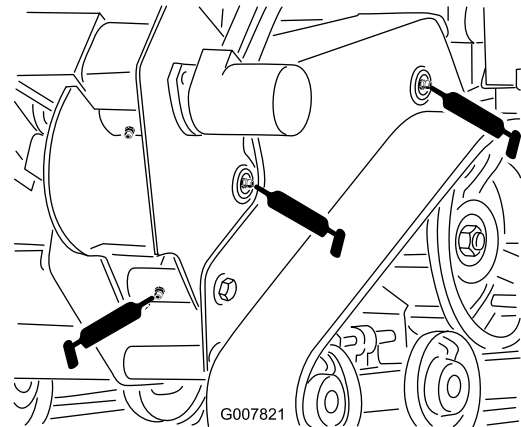
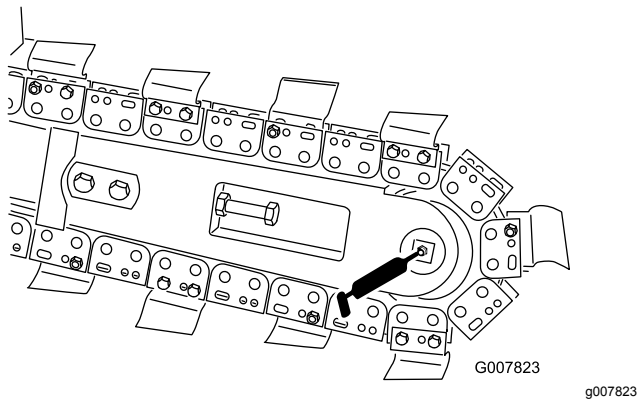

Figure 20
Figure 22
4. Connect a grease gun to each fitting (Figure 20 through Figure 22).